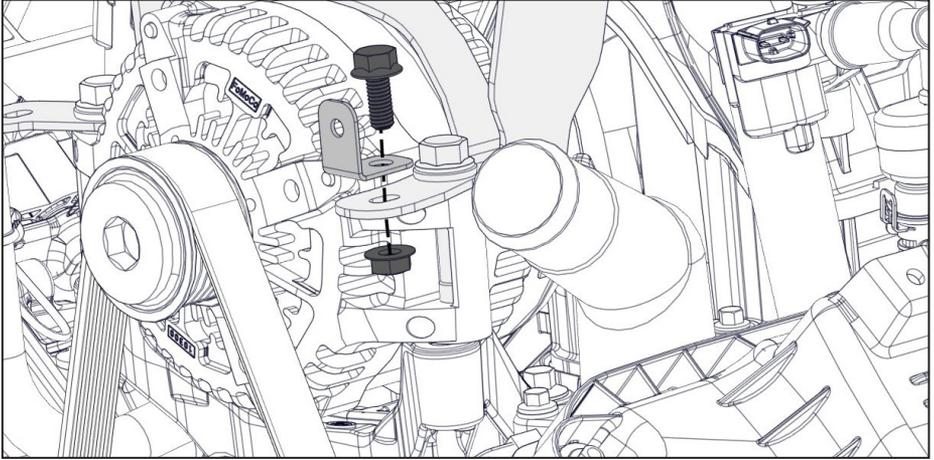

Figure 15 — Fan spacer bracket
- Using the M6 fasteners, install the fan spacer bracket onto the alternator bracket; route the fan extension harness along the front of the valve cover (Figure 15).